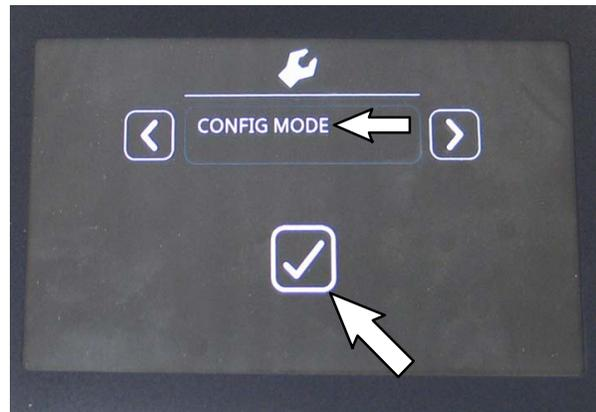

FIG. 29
4. Use the left arrow button and right arrow button to scroll to the Configuration Mode. Press the Check Mark button to access the configuration mode. (Fig. 29)